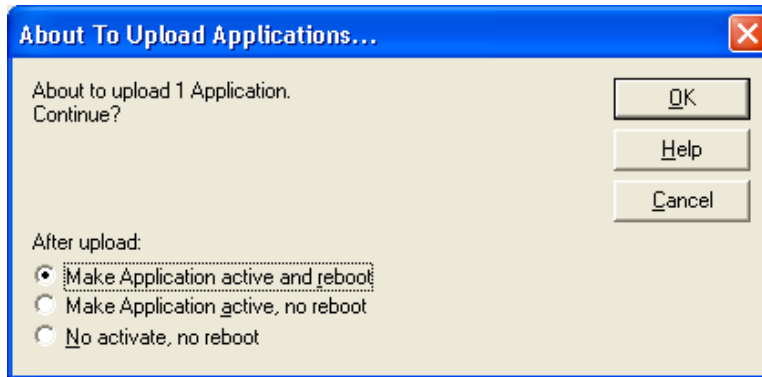

Figure 9: Upload Option Window
- k. Select the **Make Application active and reboot** option, as shown in Figure 9.